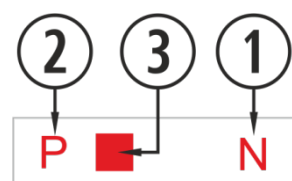

Figure 4
To turn the stove on we have to push the ☺ button (On-Off) on the control panel. Point ③ of figure 4 will change colour, as the stove goes through the different ignition phases.
This icon comes together with the safety message signal Axxx, see *figure 4* section ③. It may indicate a failure of the stove sensors or engines. Please, see table included below